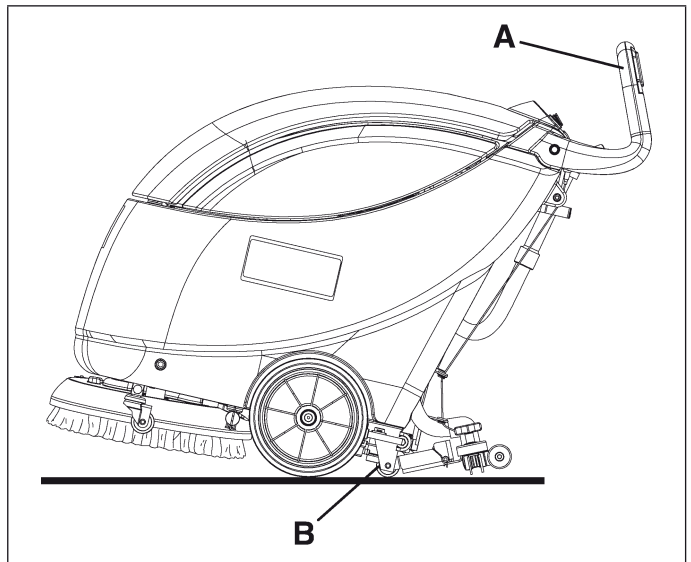

Figure 11
4. Grasp the handlebar (A, Fig. 11) and slightly lower it until the rear wheel (B) comes into contact with the floor, as shown in the figure. While holding the machine in this position, push it to the transport/parking area.